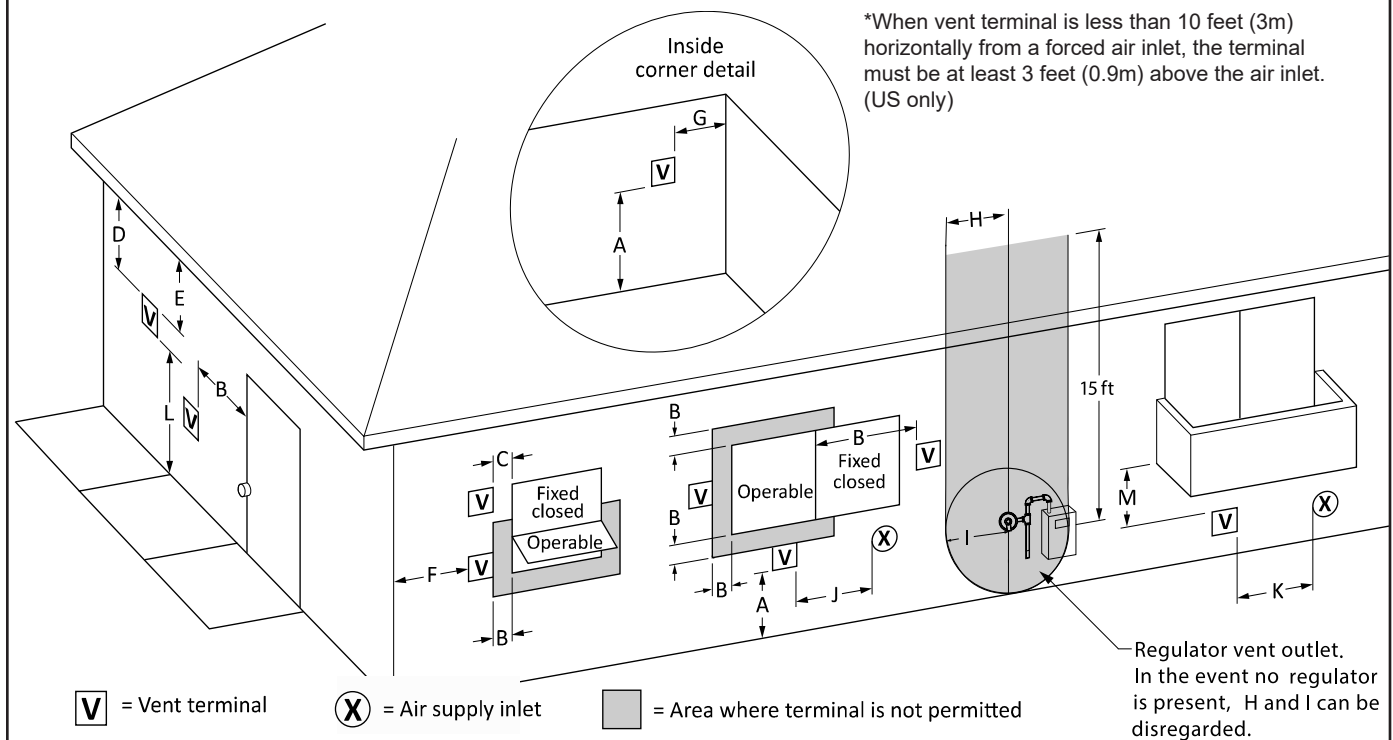

Figure 16. Combustion Air and Vent Through Side Wall
9. See Figure 16 for additional vent and air intake terminal clearances for the U.S. and Canada which must be maintained.